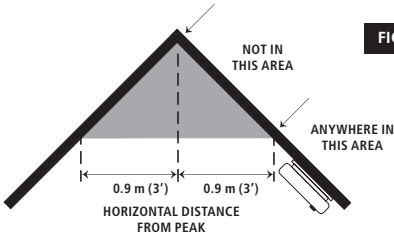

FIGURE 2B
- Do not install in areas where the relative humidity (RH) is greater than 95%, non-condensing. Very humid areas, with moisture or steam, can cause nuisance alarms.
- Do not install in peaks of vaulted ceilings. In this area install as shown in Figures 2B and 2C.